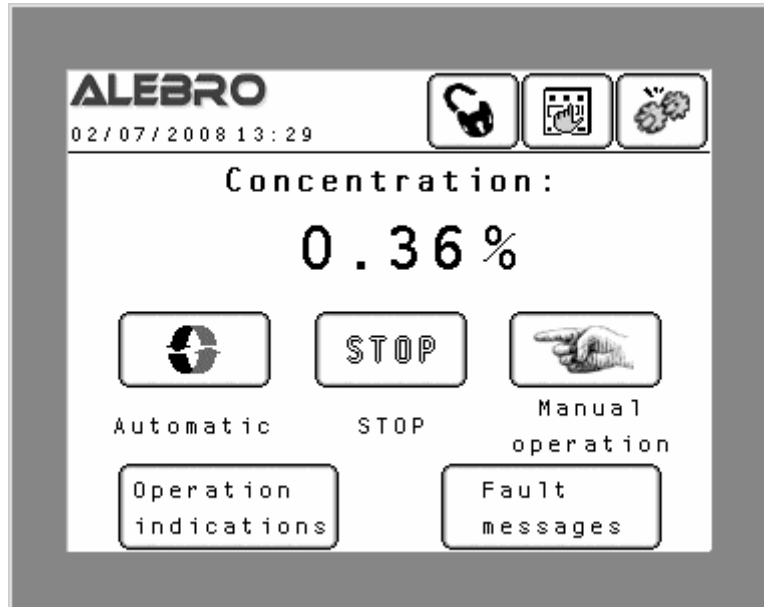

Fig. 27
- Adjust the operation concentration on the main screen (fig. 27)